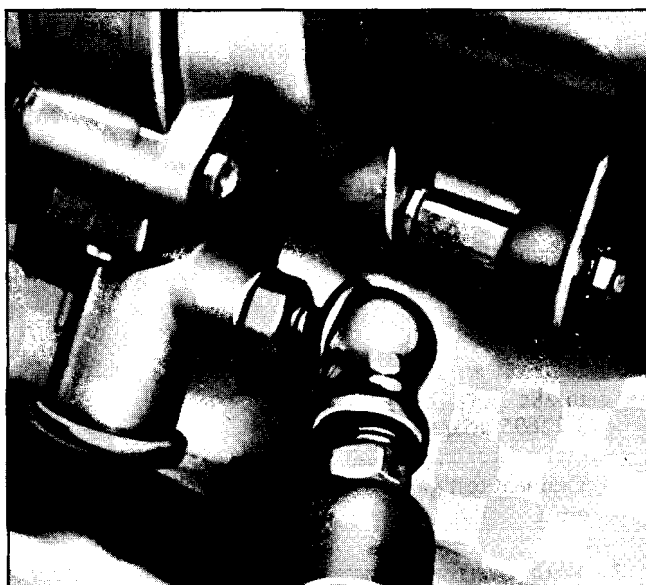

Fig. 4-2 Filling System through Service Valve
3. Inflate system through service valve to maximum available pressure (Fig. 4-2).